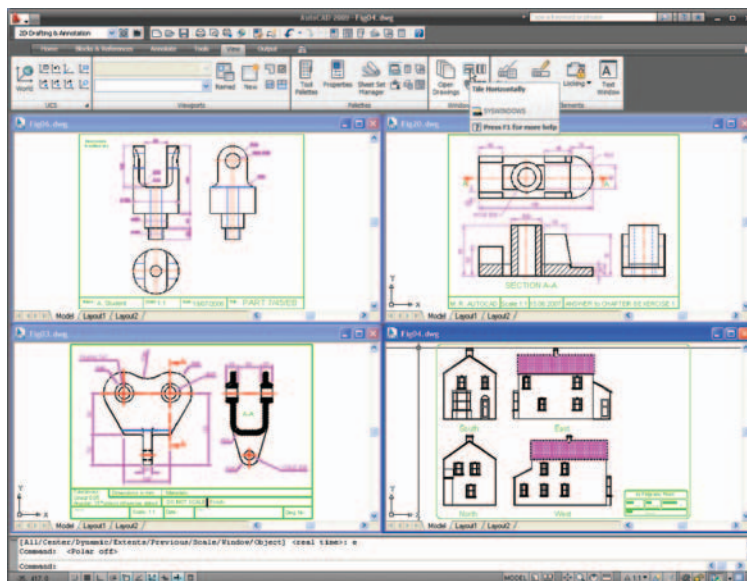

Fig. 10.25 Four drawings in the **Multiple Document Environment**
2. In the **View/Window** panel, *click* **Tile Horizontally** (Fig. 10.24). The four drawings rearrange as shown in Fig. 10.25.